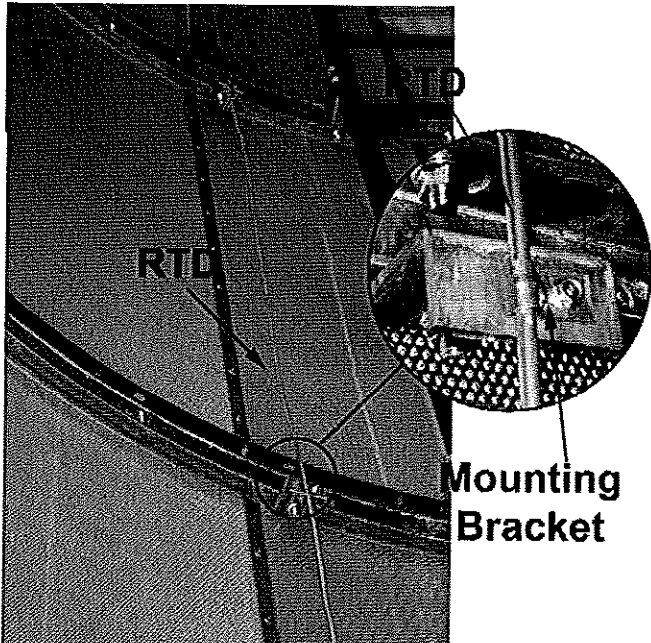

Figure 38
- Disconnect Remote Cabinet from mounting brackets and mount to (2) mounting angles or customer's own mounting device.
- Run RTD above heat floor straight up the inside of plenum chamber. The RTD is either 20 ft. or 40 ft. depending on Tower Dryer Model. The RTD is coiled and ready to be attached to the pre-mounted brackets. See Figure 38.